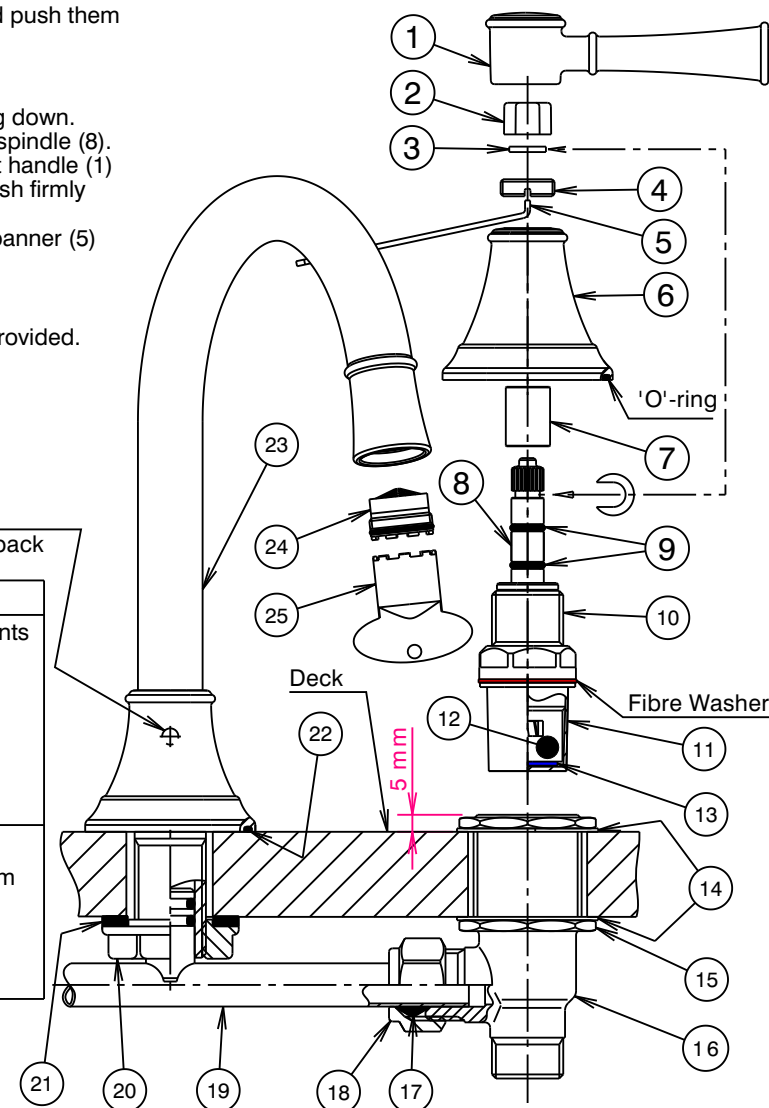

Fig. 1
- 1) Measure centre distance between tap body holes in deck, cut brench piece (19) to required length. (As a guide, subtract 30mm from centre distance of tap body holes to obtain brench piece (19) tube length).
- 2) Ensure the screw hole is placed at the back as shown in **Fig. 1**. Install basin outlet assembly (23) with seal (22). Fit washer (21) and backnut (20) and tighten.
- 3) Fit compression nuts (18) and olives (17) to each end of brench piece (19), connect to tap bodies (16) and tighten compression nuts (18) slightly.
- 4) Fit one locknut (15) and one washer (14) to each tap body (16). Install assembly into deck ensuring 'O' rings on brench piece (19) are not damaged as they enter tail of basin outlet (23). Fit remaining washer (14) and locknut (15), adjust locknuts (15) so that the tap bodies (16) protrude 5mm above the deck and tighten.
- 5) Tighten compression nuts (18) on the brench piece (19).
- 6) To install ceramic disc cartridges (12), first identify cartridge spindle rotation by seal (13) colour.